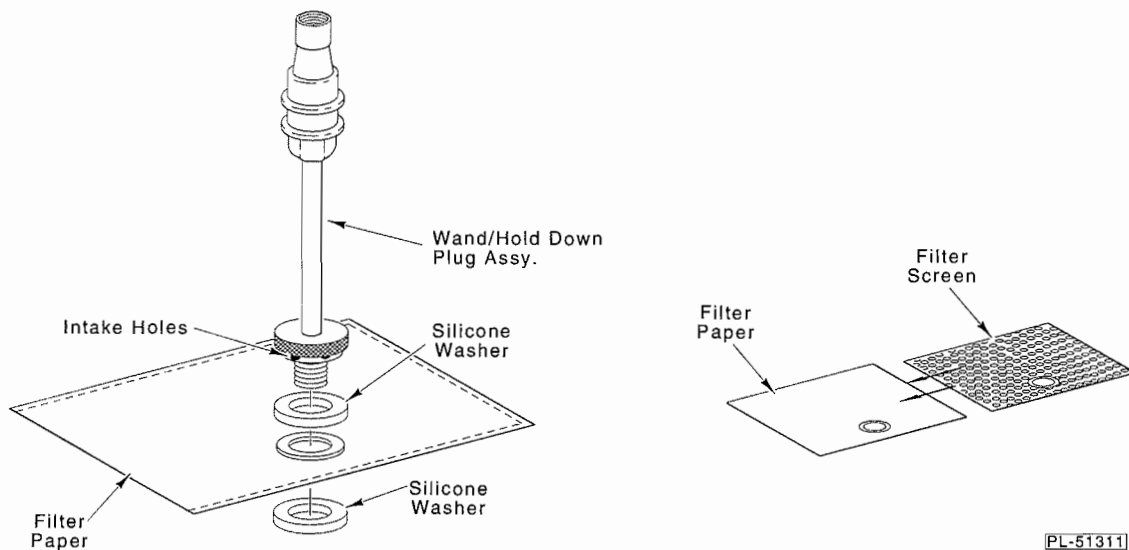

Fig. 18
4. Remove wand/hold down plug assembly, 2 silicone washers and filter screen (Fig. 18).
5. Replace filter paper (available from Hobart) (see Fig. 18) and staple onto screen.
6. Replace 1 silicone washer, then screen, 1 silicone washer, then wand/hold down plug assembly in order given (see Fig. 18). Tighten finger tight only.